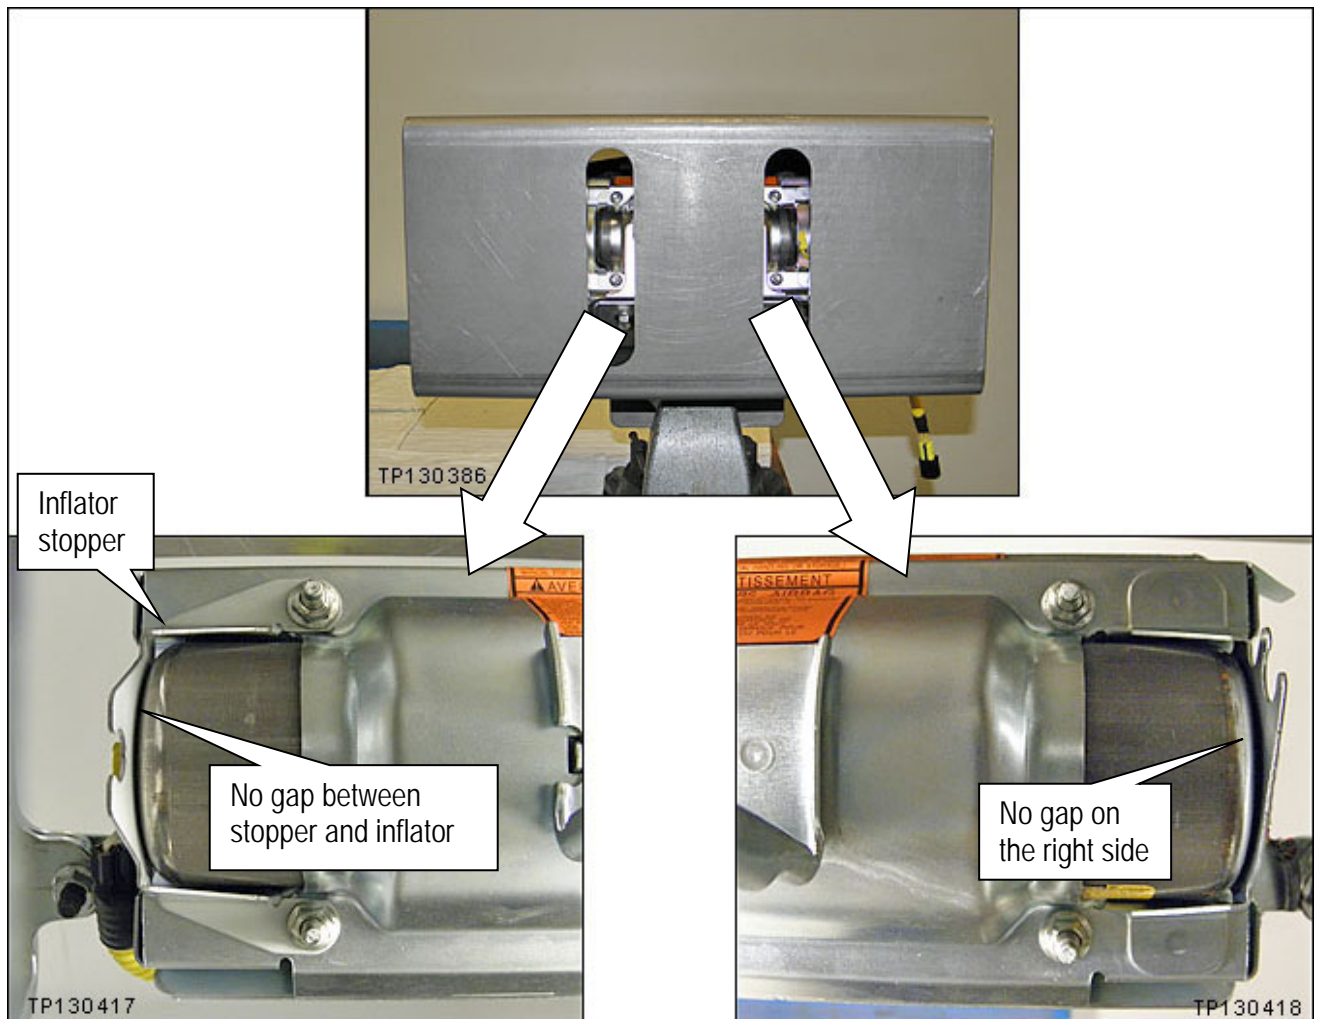

Figure 23
31. Install the inflator stopper and four (4) inflator securing nuts finger tight (see Figure 23).
32. Make sure the inflator is pushed all the way into its housing – no gap on the right side (see Figure 23).
33. Make sure there is no gap between the inflator stopper and the inflator on the left side (see Figure 23).